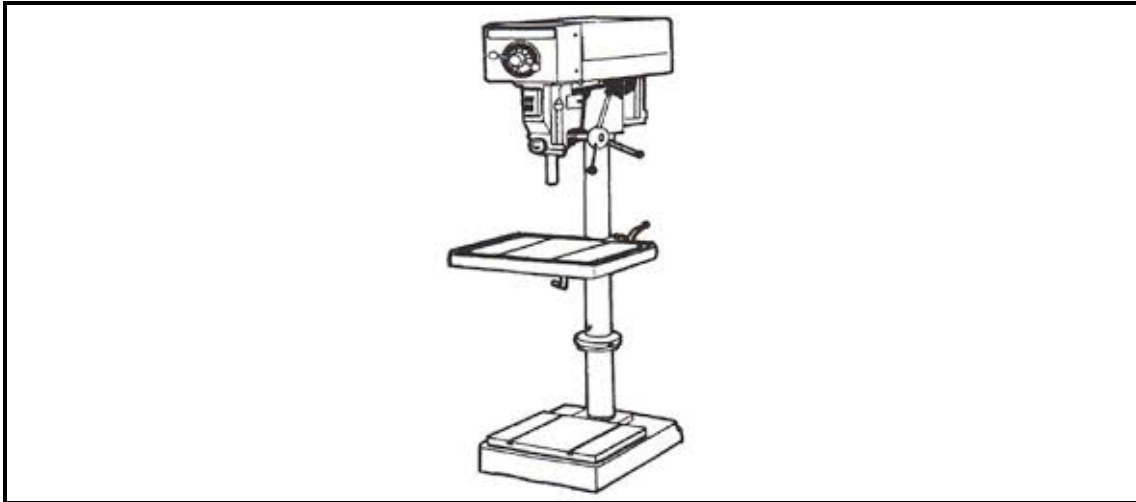

FIGURE 3
2.3 FIGURE 3 shows a pedestal drilling machine. Give FIVE pre-checks that must be carried out on the machine before commencing with a drilling process. (5)